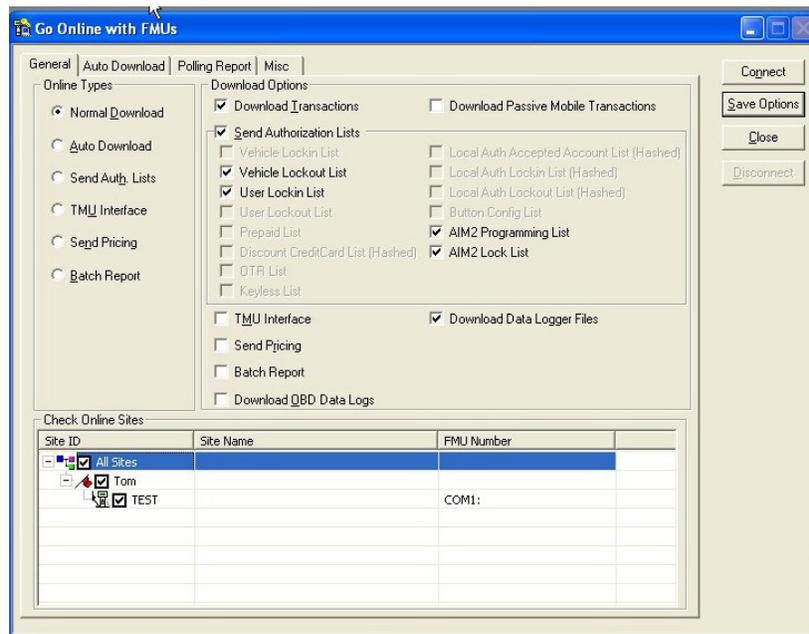

Figure 5 Go Online with FMUs > Misc.
3. After a **Folder** selection has been made, select the **General** tab. A Go Online with FMUs > General window will open (Figure 5).